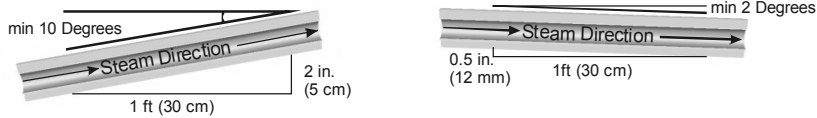

Figure 3: Minimum line sloping requirements.
2. For upward slopes in steam lines, minimum allowable slope is 10 degrees grade (2" vertically up per 12" horizontal run). See Figure 3.
3. For downward slopes in steam lines, minimum allowable slope is 2 degrees grade (0.5" vertically down per 12" horizontal run). See Figure 3.